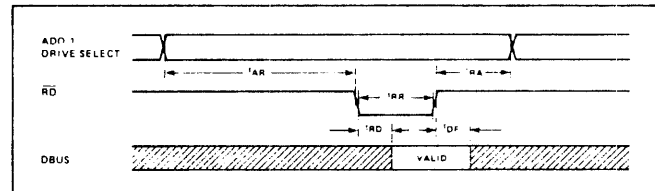

Figure 10.5-2 Register Read Timing
2. Register Read Timing Register read timing is shown in Figure 10.5-2 The AC characteristics are listed in Table 10.5-2